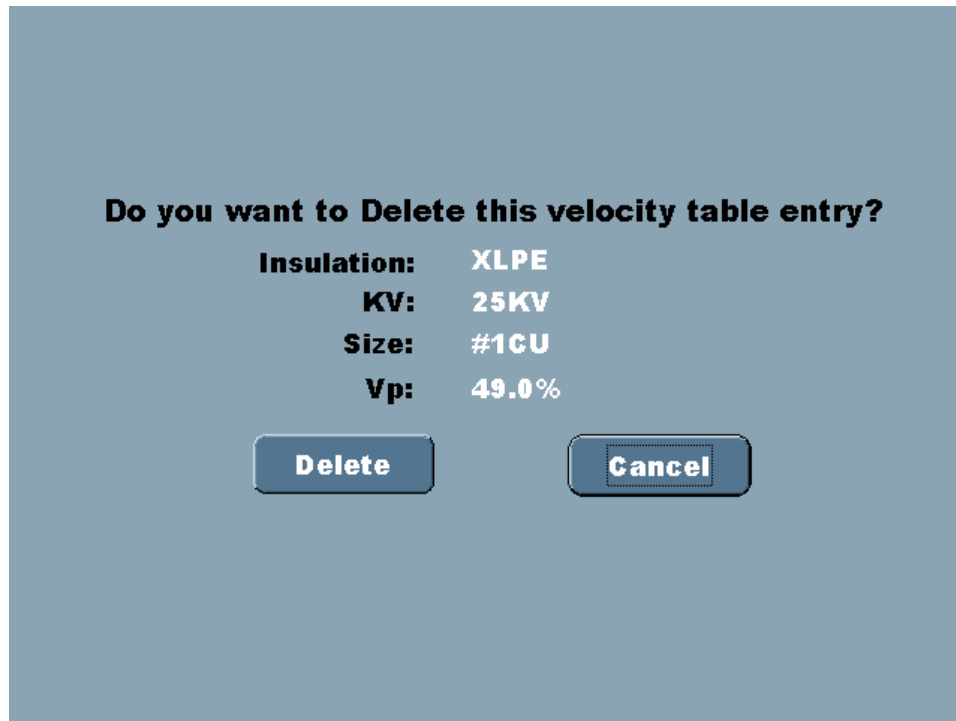

Figure 6-23 Delete screen
- To delete an existing cable description, press on the cable description and then press **Delete** to go to the Delete screen (Figure 6-23).
Use the Delete screen (Figure 6-23) to delete the selected cable description.